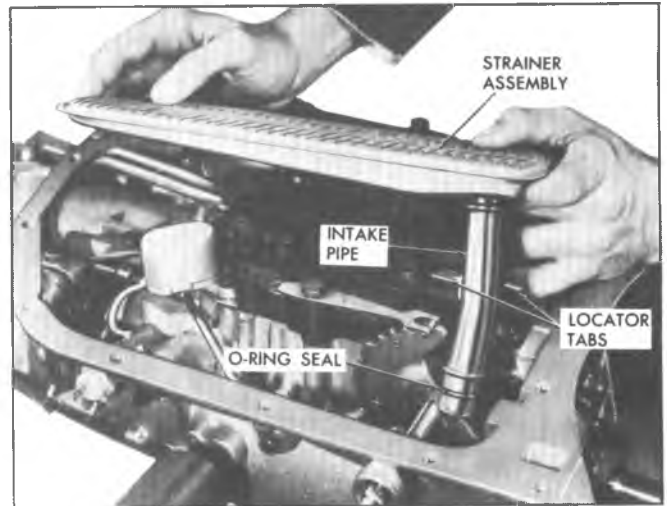

Fig. 8T--Removing Filter Assembly and "O" Ring
7. Remove filter and intake pipe assembly from case (fig. 8T) and discard filter.